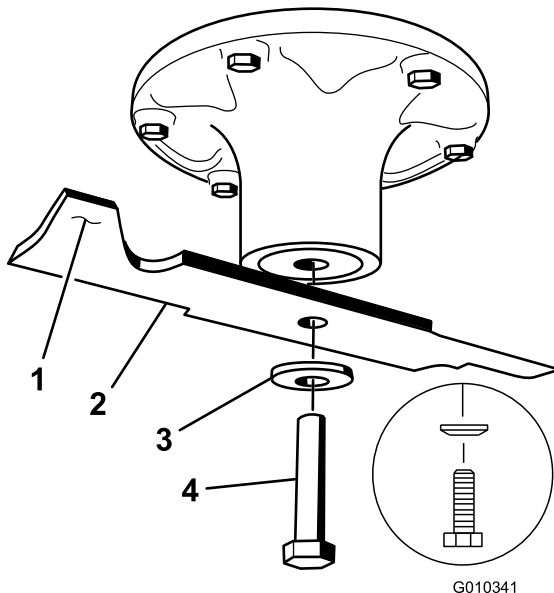

Figure 56
2. Remove the blade bolt, curved washer, and blade from the spindle shaft (Figure 56).
1. Install the blade onto the spindle shaft (Figure 56).
2. Install the curved washer (cupped side toward the blade) and the blade bolt (Figure 56).